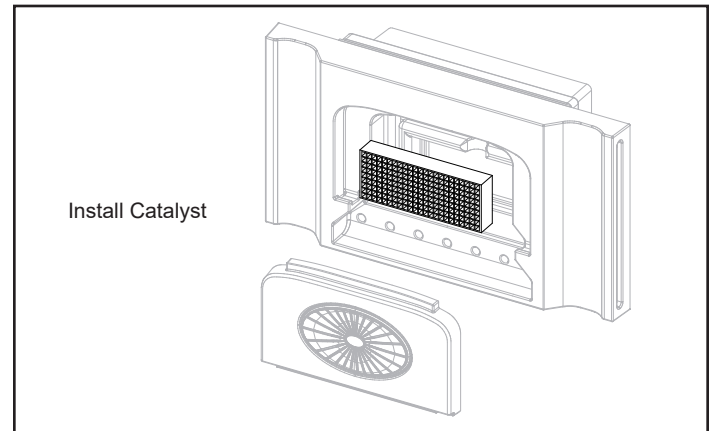

Figure 3 - Install catalyst.
3. Install the catalyst by gently placing it into the cavity and straight down, Figure 3. Place the catalyst where the catalyst's ceramic components will not be damaged.